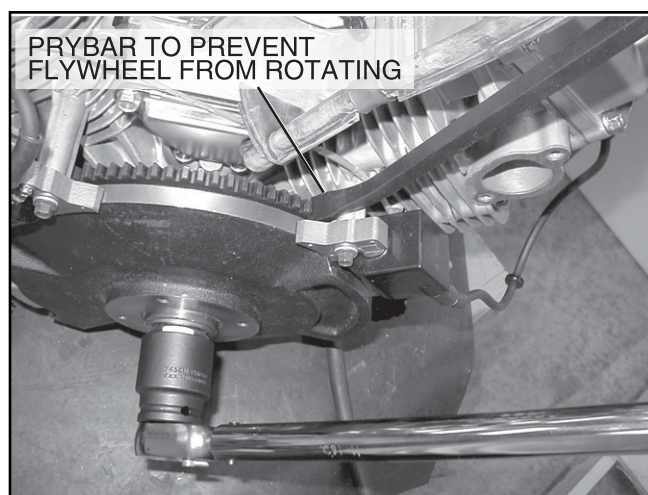

Figure 2-7. Torquing Flywheel Nut
- a. Torque flywheel nut to 204.0 Nm (150 ft. lbs.), Figure 2-7.